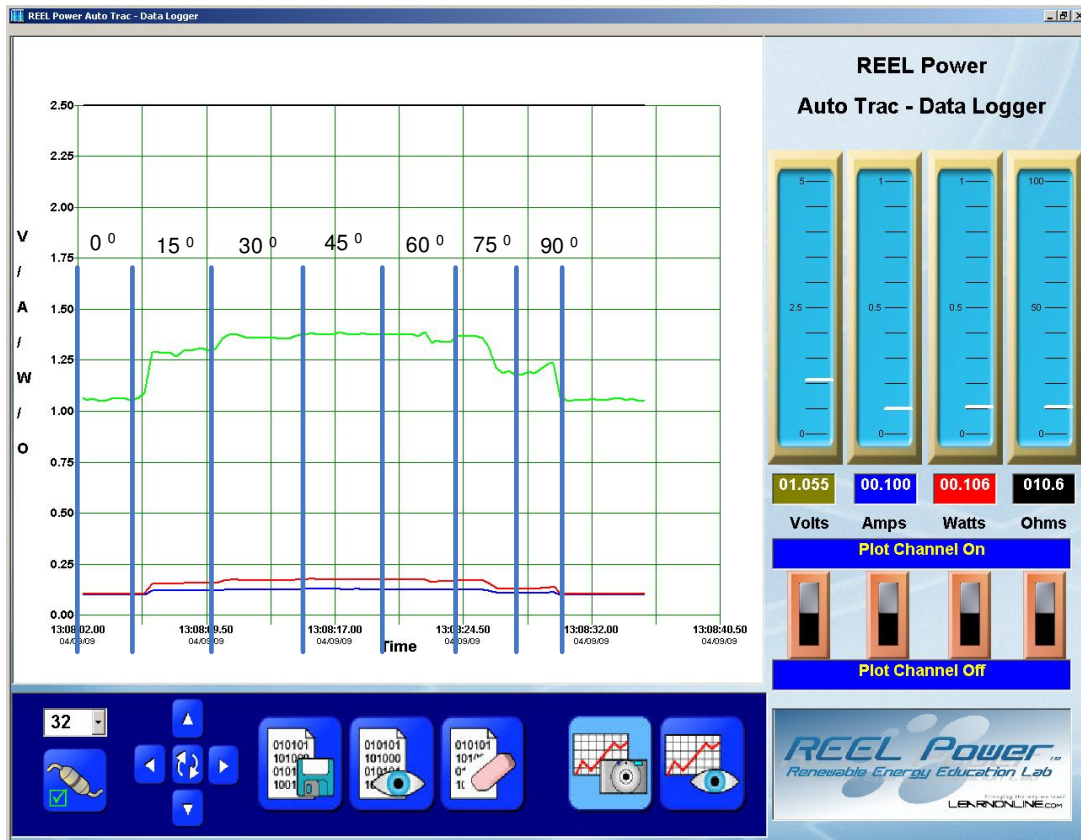

Figure 2 – Plot of Electrical Data Based on Solar Panel Tilt Angle
4. Push the Track key on the **Smart Meter – Data Logger™** until the **View Trackx Data** message is displayed where Trackx is the Track used to record the tilt angle data. The computer display should begin to display the recorded data as shown in Figure 2 below.